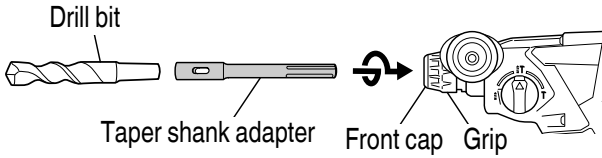
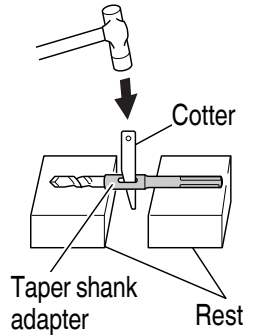

Fig. 26
Fig. 27
- (1) Mount the taper shank adapter to the rotary hammer. (**Fig. 26**)
- (2) Mount the drill bit (taper shank) to the taper shank adapter. (**Fig. 26**)
- (3) Turn the switch ON, and drill a hole in prescribed depth.
- (4) To remove the drill bit (taper shank), insert the cotter into the slot of the taper shank adapter and strike the head of the cotter with a hammer supporting on the rests. (**Fig. 27**)